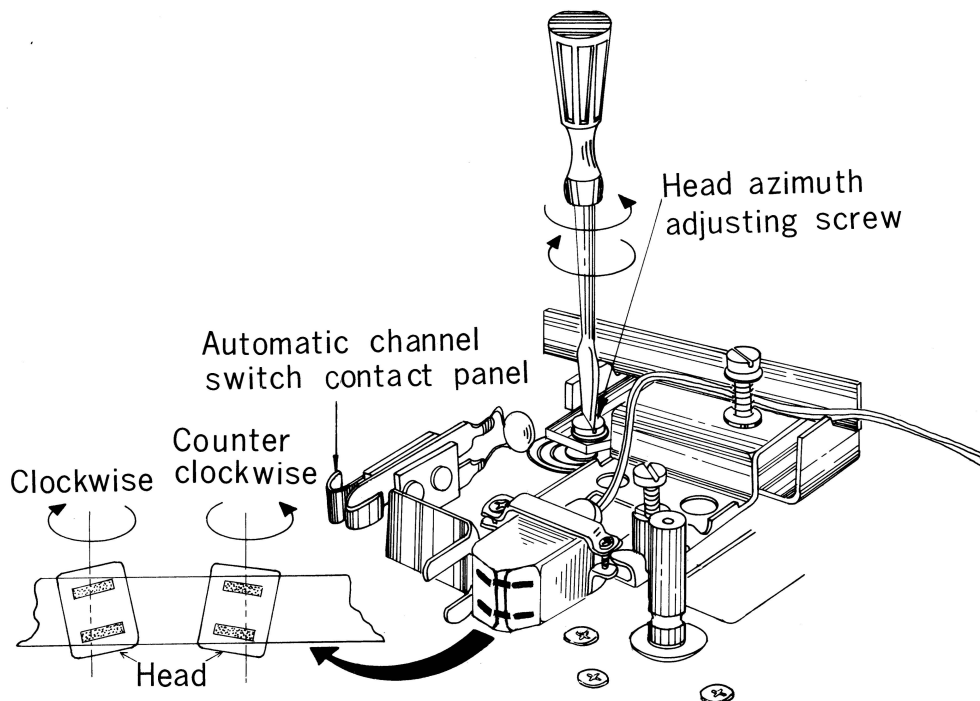

Fig. 7
- Head height and angle adjustments (Refer to Figs. 7 and 8.)